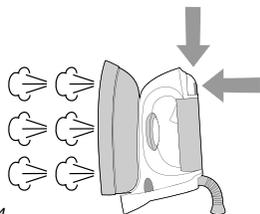

Fig 4
- Press and pull to activate the locking device for continuous steam as fig 4.